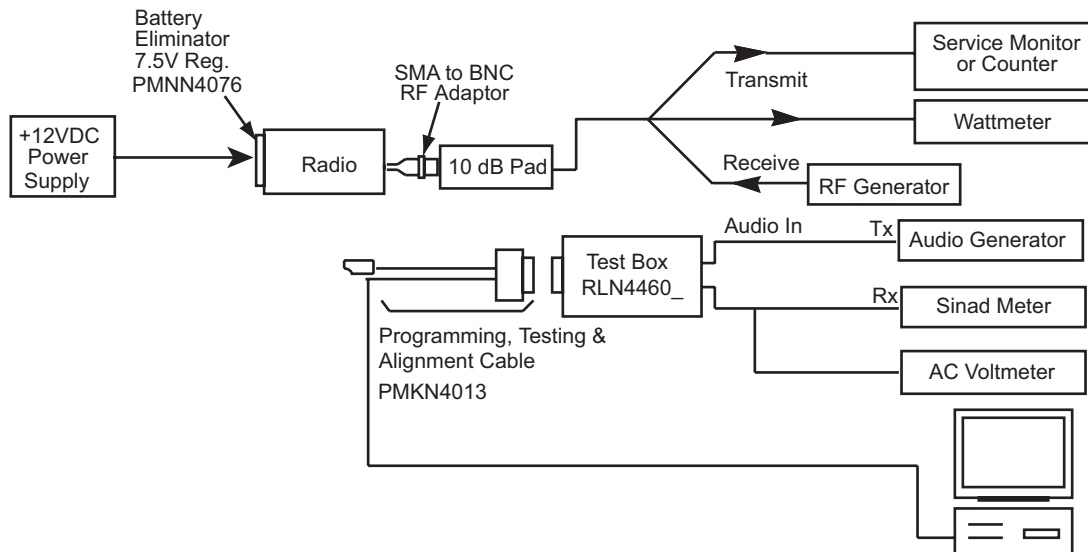

Figure 4-2. Radio Tuning Equipment Setup
A personal computer (PC), Windows 2000/XP and a tuner program are required to tune the radio. To perform the tuning procedures, the radio must be connected to the PC, radio interface box (RIB), and test equipment setup as shown in Figure 4-2.